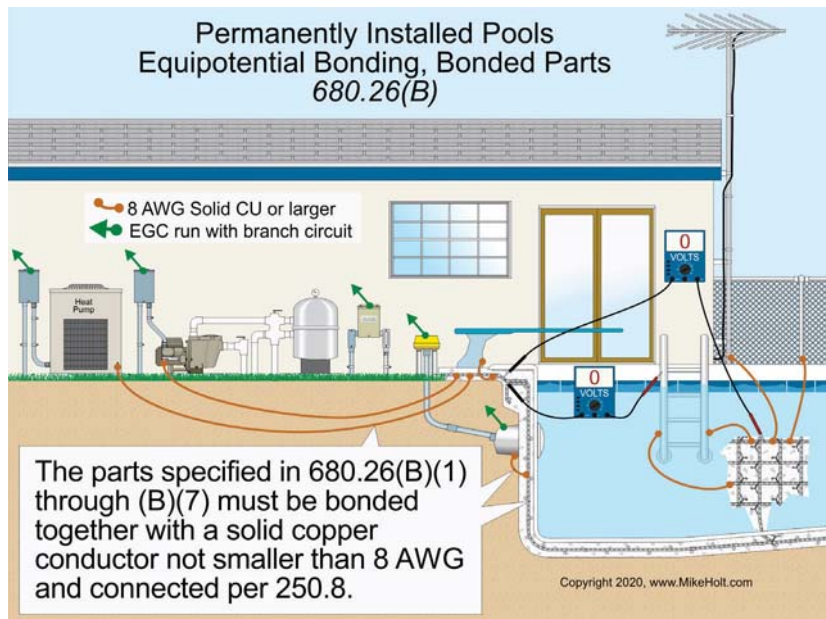

Fig. 2. This equipotential bonding is not required to extend to any panelboard, service disconnect, or grounding electrode.
To accomplish equipotential bonding, the parts of a permanently installed pool listed in Sec. 680.26(B)(1) through (B)(7) must be bonded with a solid copper conductor at least 8 AWG with a listed pressure connector, terminal bar, or other listed means per Sec. 250.8(A) [Sec. 680.26(B)] (Fig. 2). This equipotential bonding is not required to extend to any panelboard, service disconnect, or grounding electrode.